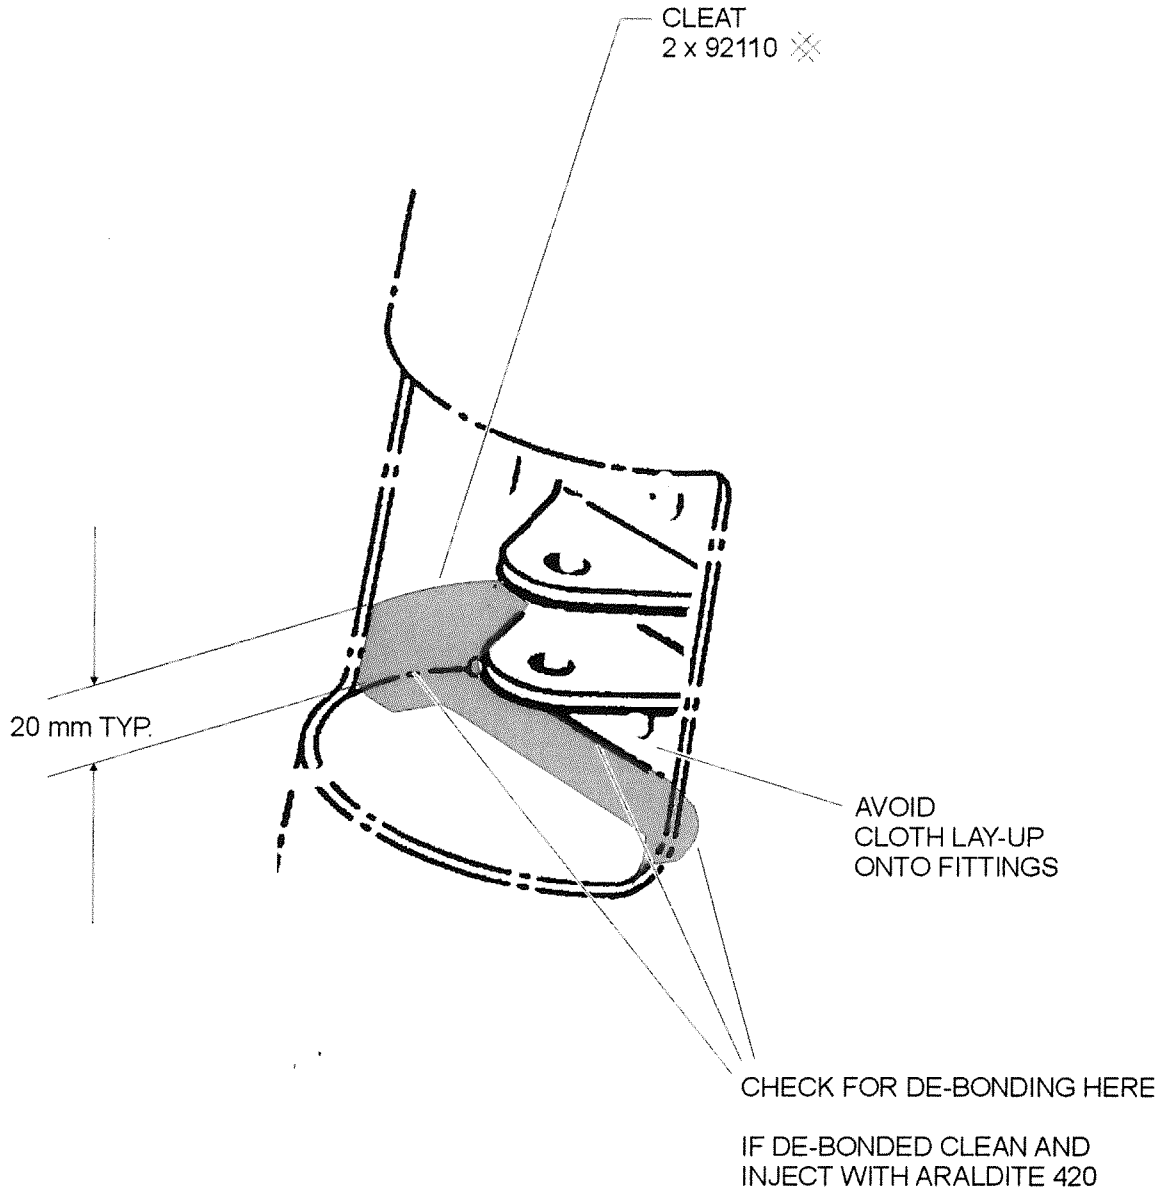

FIG 2
5. Inspect the upper rudder hinge lower closing rib bond, both to the rudder skin and spar for signs of bond failure Ref Figure 2. If a debond is found use a suitable feeler gauge to establish extent of failure.
7. Refer to Figure 2 and prepare area for laminating. Laminate 2 layers 92110 ✖ cloth over area shown, allow to cure. Laminate in accordance with T67 GRP Repair Manual.